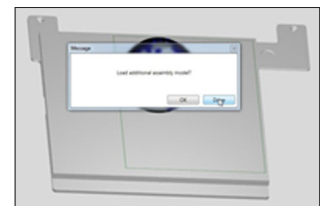

Fig. 74
- Continue following this process until all of your .stl files are open. (Fig. 74)